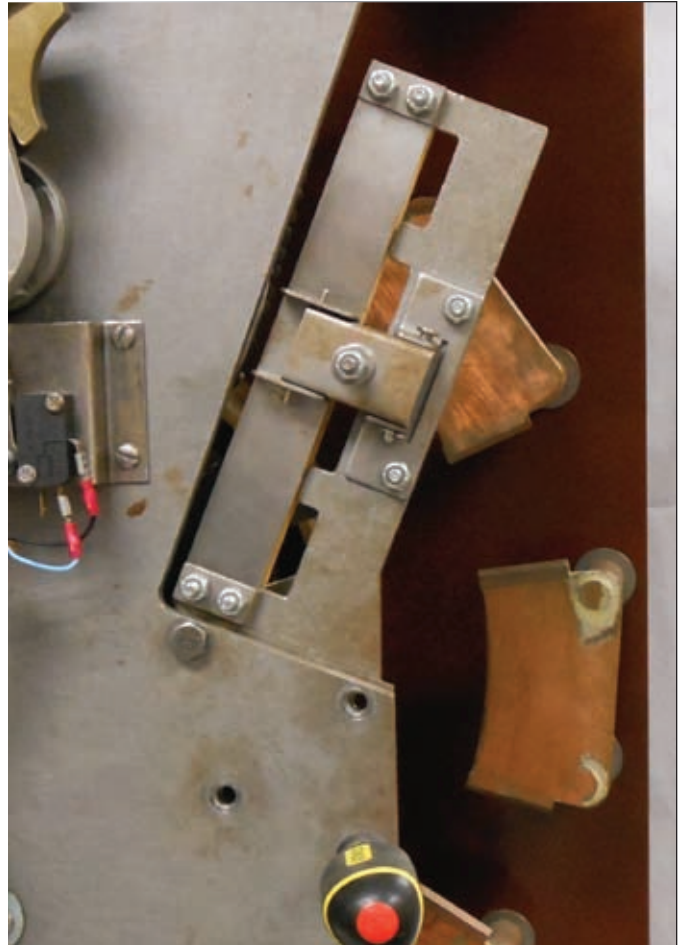

Figure 7.
7. Place the brake assembly and the brake shim onto the mounting position and insert the screwdriver to hold the shim in place. Make sure that the brake pad grooves of the assembly are facing toward the brake disc. See Figure 7.